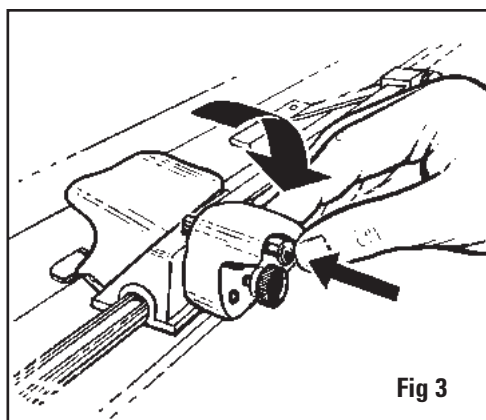

Fig 3
3. Slide the cutting head past the far end of the mat board and rotate the straight cut blade holder down until the lock down pin snaps over the top of the cutting head locking the blade holder into cutting position. **Fig 3**
5. Slide the cutting head into position so that the edge of the metal near the green dot on the indicator plate is directly over the marked line. **Fig 3**